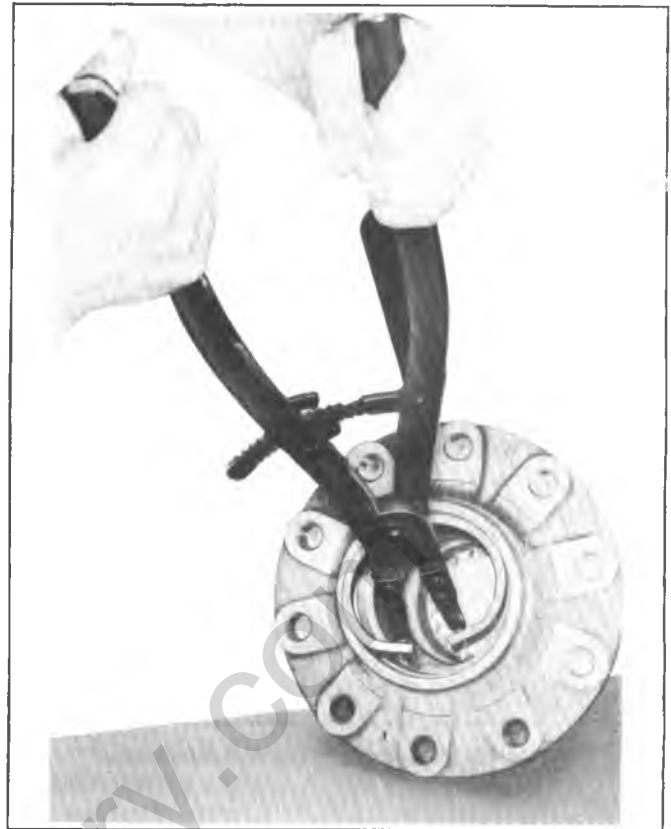

Fig. 4B-38--Removing Hub Outer Bearing Retainer Ring
3. Use J-22380, as shown in figure 4B-38, to remove outer bearing retainer ring.